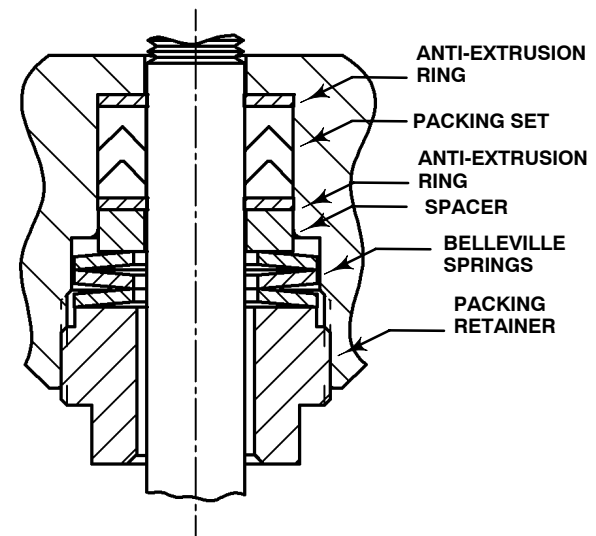

Figure 3. Packing and Belleville Spring Stacking Order
8. Unscrew the flow adjuster socket head cap screws (key 29), and remove the flow adjuster halves.
9. Unscrew the packing retainer (key 7) from the bonnet (key 2). After the packing retainer has been unscrewed from the bonnet, pull the valve stem and plug out of the bonnet.
10. Remove the three Belleville springs (key 9), packing spacer (key 10), packing (key 11), and two anti-extrusion rings (key 12) from the bonnet. See figure 3.
14. Inspect the valve stem bushing (key 8) located in the upper end of the bonnet. If damaged, remove and replace it with new bushing (key 8). Replace the valve stem bushing by inserting the bushing, flange end first, into the bore located at the top of the bonnet flow adjuster window. Insert until the flange snaps into the groove provided for it.
15. Remove the O-ring (key 17) from the upper end of the bonnet. Replace it with a new one, and lubricate it with Lubriplate MAG-1 or equivalent.
16. Install new packing according to the packing arrangement shown in figure 3, Apply a light film of Lubriplate Mag-1 lubricant or equivalent to the threads of the packing retainer (key 7). Install the Belleville springs and packing retainer, as shown in figure 3, but do not tighten.
18. **Tighten the packing retainer to a range of 81 to 95 N•m (60 to 70 lbf•ft). Then loosen the packing retainer 30 degrees counter-clockwise. See figure 3.**
19. If the bottom casing (key 20) has been removed, place O-ring (key 16) into the groove provided in the top of the bonnet. Place the bottom casing on the bonnet, oriented in the same position as marked in step 7 on page 8. Screw the hex nut (key 18) onto the bonnet, and tighten to 203 N•m (150 lbf•ft).